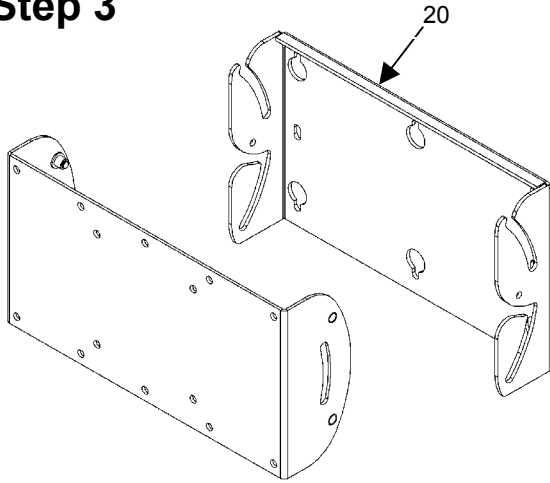

Figure 6. Assemble the Brackets
- A. With an assistant (if necessary), lift the display up to the wall bracket (20) over the four mounting pins (see Figure 6).
- B. Align the mounting pins on the display with the slots in the wall bracket (20), and set the display into place.
- C. Verify that the display tilts on the wall bracket (20).